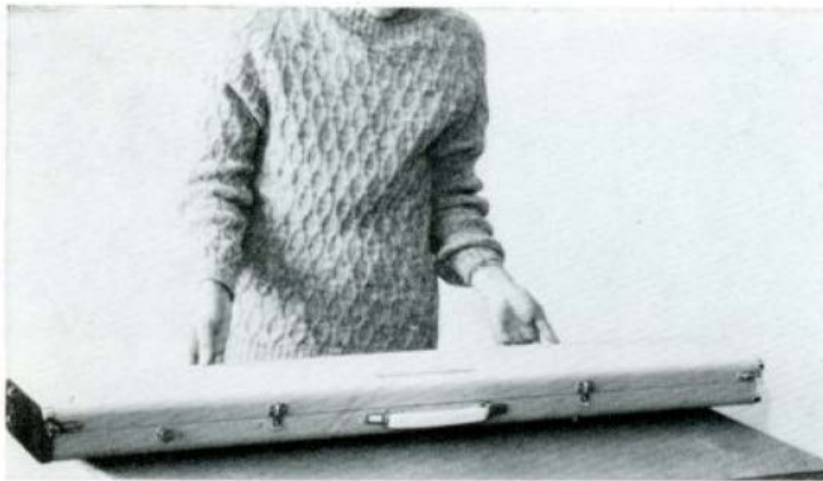

Fig. 2
1. Place your knitter on the edge of any firm and flat table, with the handle of carrying case away from you. (See Fig.2)
- a. Release the catches on both sides of the handle. (See Fig.2)